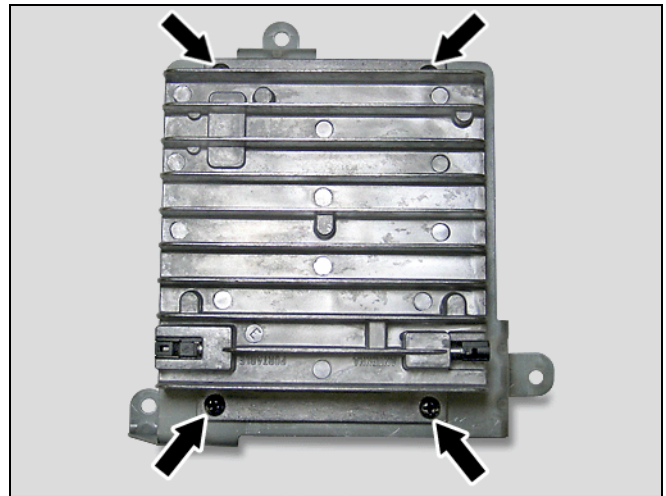

Figure 9
1. Mount the linear compensator to the pre-tapped screw holes in the bracket for the linear compensator with four Phillips head machine screws (Figure 9).
**Note:** Align the connector receptacles of the linear compensator with the bracket end with the two mounting tabs (Figure 9).